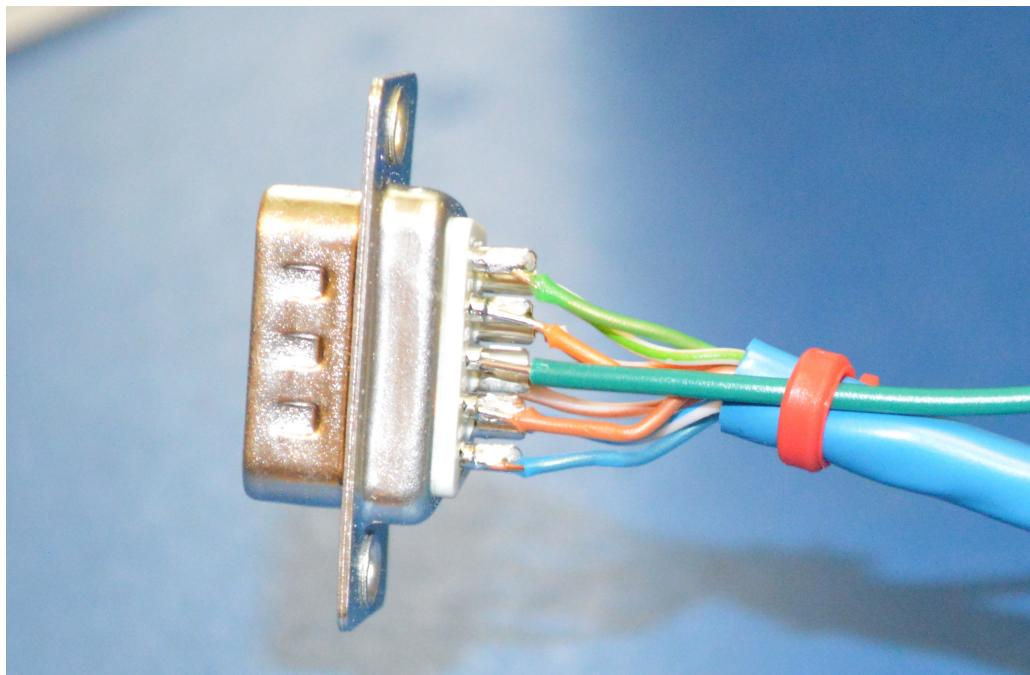

Figure 2.10: LED Panel Connector with Ground Wire
- Since CAT-5 cables are only 8 conductor, a separate ground/return wire needs to be added. As a note of caution, I find that the orange and brown pairs are difficult to distinguish. Be careful, otherwise you may wind up having to resolder the connector. See Figure 2.10.